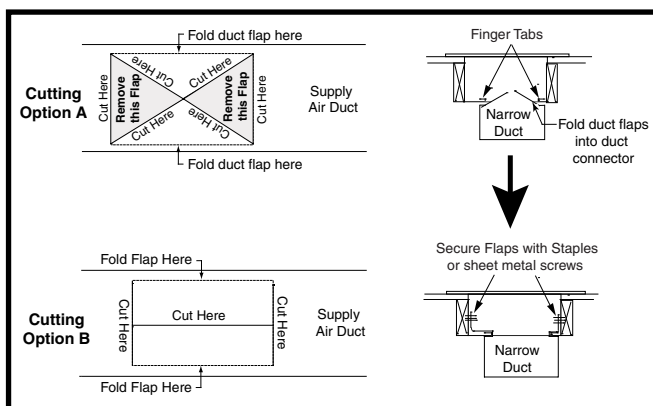

Figure 12. Screw-Down Duct Connector
- Select Option A or Option B in Figure 12 and cut the top of the supply air duct. Remove metal flaps from the duct (shaded area) if Option A is selected.
- Form the duct flaps up against the side of the duct connector as tight as possible. See Figure 12.